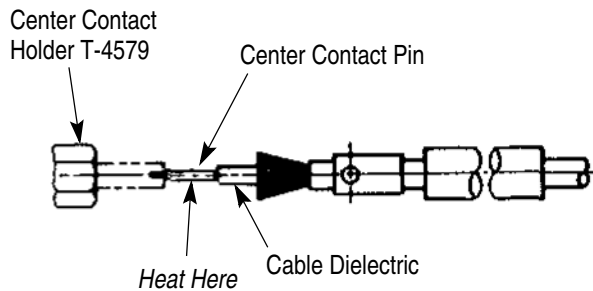

Figure 4
2.2. Soldering Center Contact to Inner Conductor (Figure 4)
- Place center contact in center contact holder (see Figure 4)